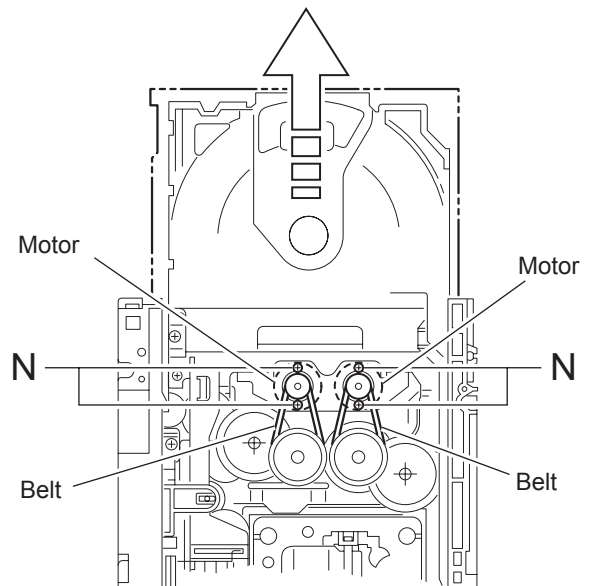

Fig.34
3.2.11 Removing the motor (See Fig.34 ,35)